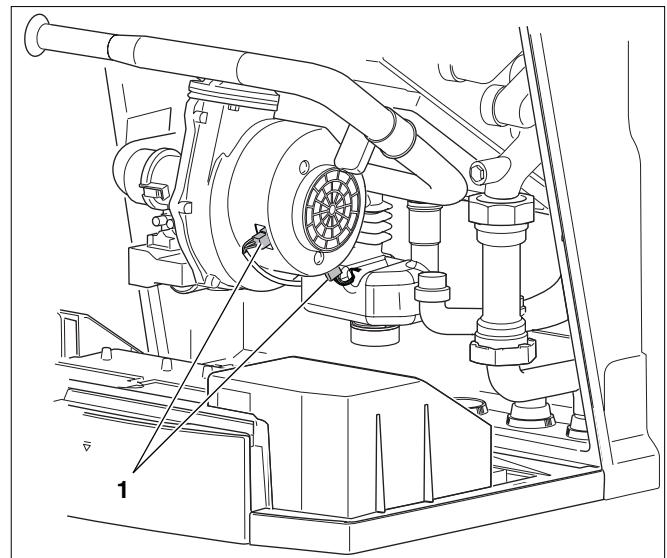

Fig. 51 Disconnect the cable plug from the fan unit
- Remove both cable plugs from the fan unit (see fig. 51, pos. 1).